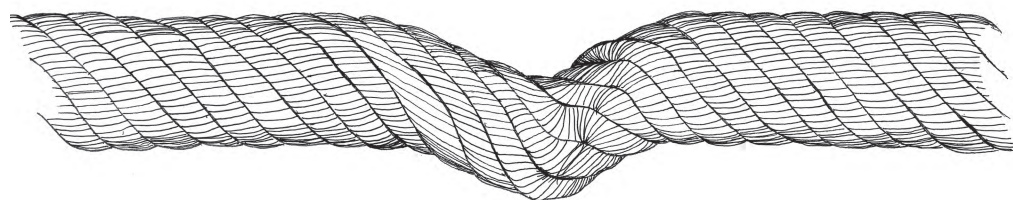

Figure 2-9—Kinking (caused by a loop in wire rope under tension).
- **Kinking**—Avoid kinking (figure 2-9) by using proper wire rope management when spooling or unspooling, when feeding a winch in or out, and when the rope is under tension.